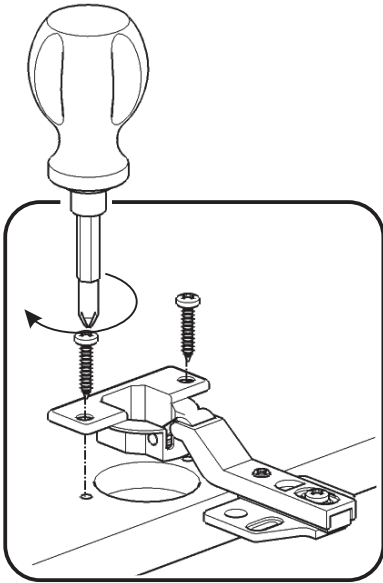

Figure 3
Attach Hinges to Doors (F) and (G) with Wood Screws for Hinge into pre-drilled holes, then tighten. (See Figure 3)